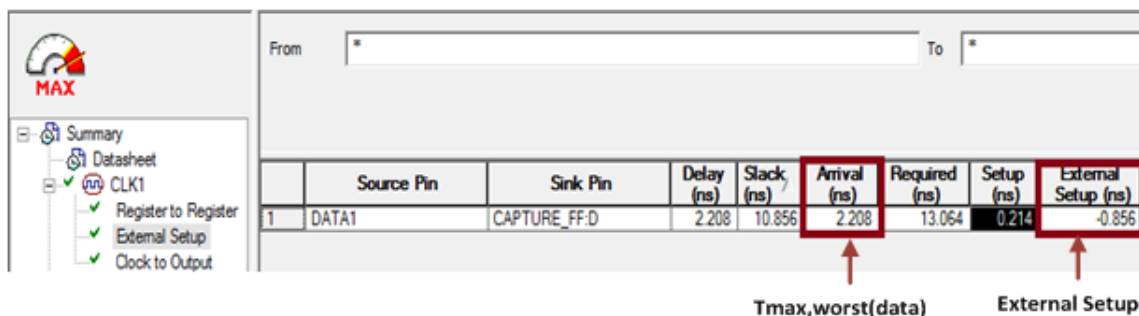

Figure 12 • SmartTime Worst Case Setup Analysis
3. In the Maximum Delay Analysis view, get the external setup time, as shown in Figure 12.